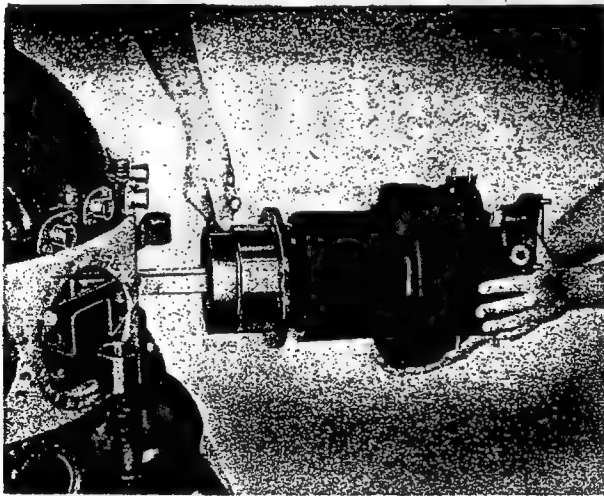

Figure 51—Installing Cylinder
(1) Coat the cylinder barrel bore with clean engine oil and install a new oil seal ring below the hold-down flange. Thoroughly coat the piston and rings with clean engine oil. However, do not use excessive oil as drainage into the combustion chamber may cause fouling of the spark plugs. Set the piston rings so that the gaps are equally spaced (staggered) around the piston. Remove the connecting rod guide from the cylinder pad. Make sure that the cylinder pad is clean and dry.
(2) Compress the upper piston rings with the flexible piston ring clamp (Tool No. 80440) and slide the cylinder over the piston. See figure 51. As soon